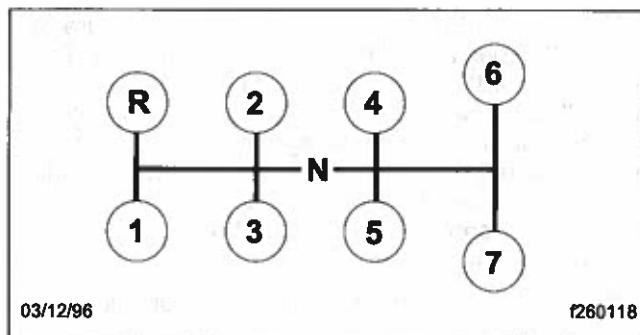

Fig. 8.19, TTC 7-Speed Transmission Shift Pattern
TTC (Spicer) 7-speed series transmissions are synchronized in all gears except 1st and reverse. They have seven forward gears and one reverse gear. See **Fig. 8.19** for the shift pattern.
4. Use this progressive shifting technique to shift into each higher gear. See **Fig. 8.19** for the shift pattern.